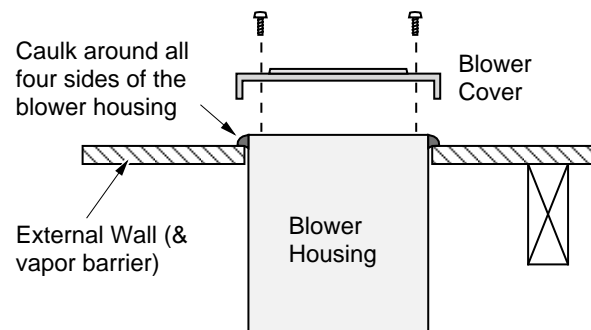

Figure 15
- The blower, if located on an external wall, must be weatherproofed (see Figure 15). Remove the blower cover and install the blower. Apply caulk around the perimeter of the blower housing where it contacts the external wall and vapor barrier (apply sparingly). Replace the blower cover.